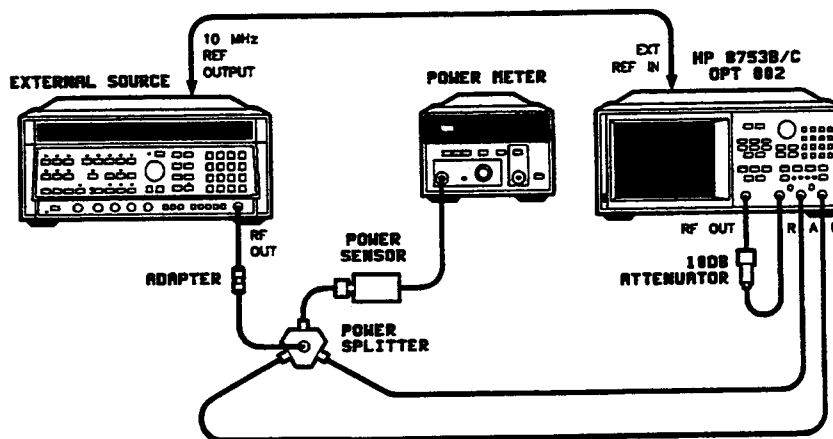

Figure 27. HP 8753B/C Option 002 Absolute Amplitude Accuracy Test Setup
1. Connect the equipment as shown in Figure 27 and allow one hour warm-up.